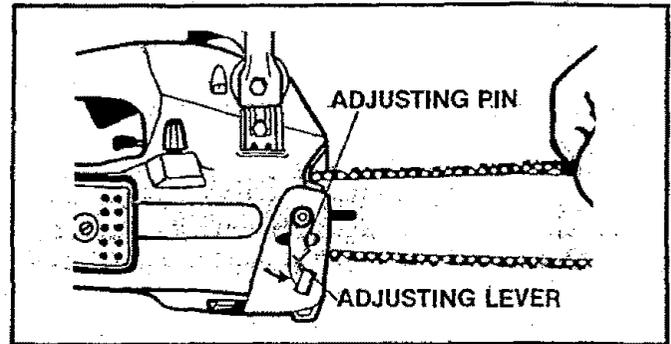

Figure 9
- h. Place the Adjusting Lever and the Bar Clamp on the Bar Stud. Figure 9.